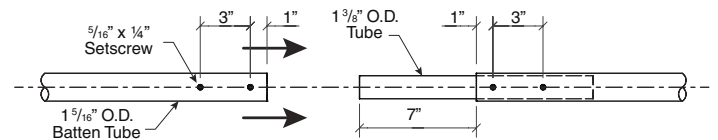

Figure 3
- ① Lay the curtain out with the top of the curtain close to the dangling wire rope cable.
- ② Slide 1 5/8" top and bottom batten tubes into pocket one section at a time, assembling as you go. Use 1 3/8" OD x 14" tube to connect section of batten tube. Splice should be installed so equal portions are inside tube that is being connected (see Fig. 3). Rotate batten to align the pre-drilled and tapped holes in batten. Secure with 5/16" x 1/4" set screws.